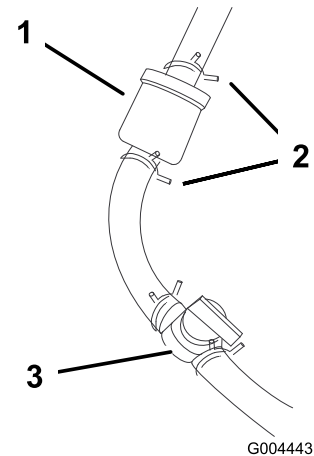

Figure 33
4. Close the fuel shut-off valve (Figure 33).
5. Squeeze the ends of the hose clamps together and slide them away from the filter (Figure 33).
7. Install a new filter and move the hose clamps close to the filter to secure the fuel line (Figure 33).